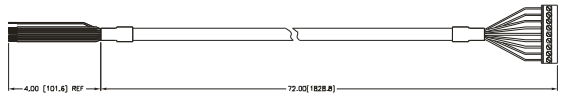

FIG. 3-12 RTA CABLE ASSEMBLY - HI 1769-WS
- Six (6) foot cable and schematic that connects to the HI 1769-WS module. (See Figs. 3-12& 3-13)
For CE requirements you will need to install an EMI suppression core around the multi-strand portion of the RTA cable. (See Fig. 3-12 & 3-14)